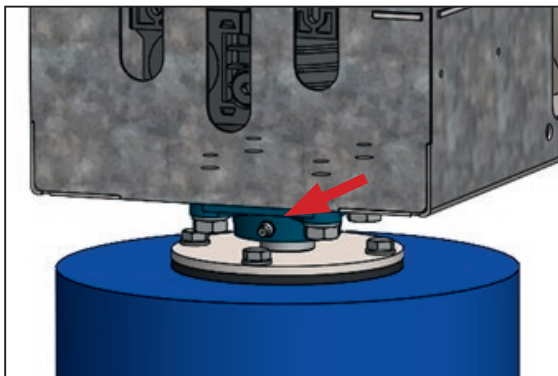

Figure 7 – Position of grease nipple
Lubricate the flange bearing units at the locations marked (Fig. 7). Check plain bearing bushes (Fig. 9 - item 2.2) for wear. These parts must be inspected regularly and replaced if they are wearing too much.